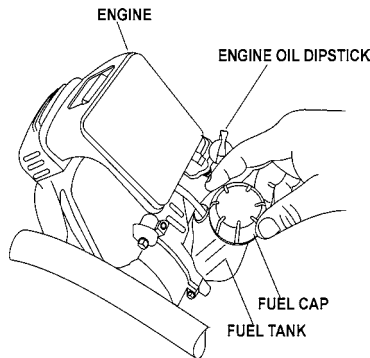

Figure 9. Fuel Tank
1. Fill the fuel tank (Figure 9) with unleaded gasoline. **DO NOT** over fill. Topping-off to filler port is dangerous, as it tends to spill fuel. Wipe up any spilled fuel immediately.